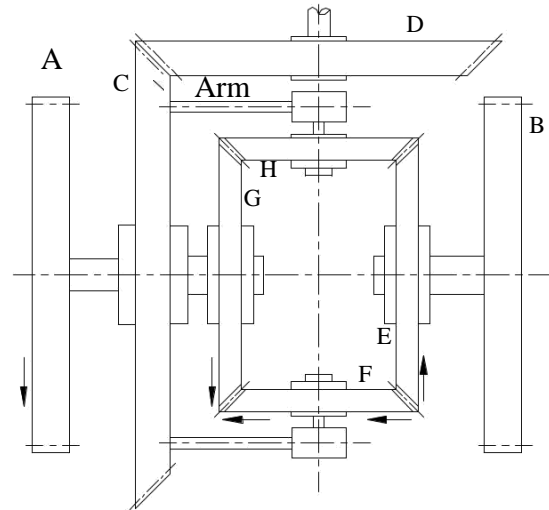

Figure 4
**Problem 4:** The gear train shown in figure 4 is used in an indexing mechanism of a milling machine. The drive is from gear wheels A and B to the bevel gear wheel D through the gear train. The following table gives the number of teeth on each gear.